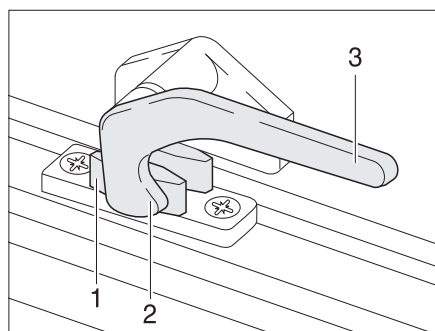

Fig. 10 Catch lever in "closed" position
- Turn the catch lever (Fig. 10,3) a quarter turn towards the centre of the window.
- Turn the catch lever (Fig. 10,3) a quarter turn towards the window frame. The locking catch (Fig. 10,2) is located on the inside of the window catch (Fig. 10,1).
- "Firmly closed" (Fig. 10)